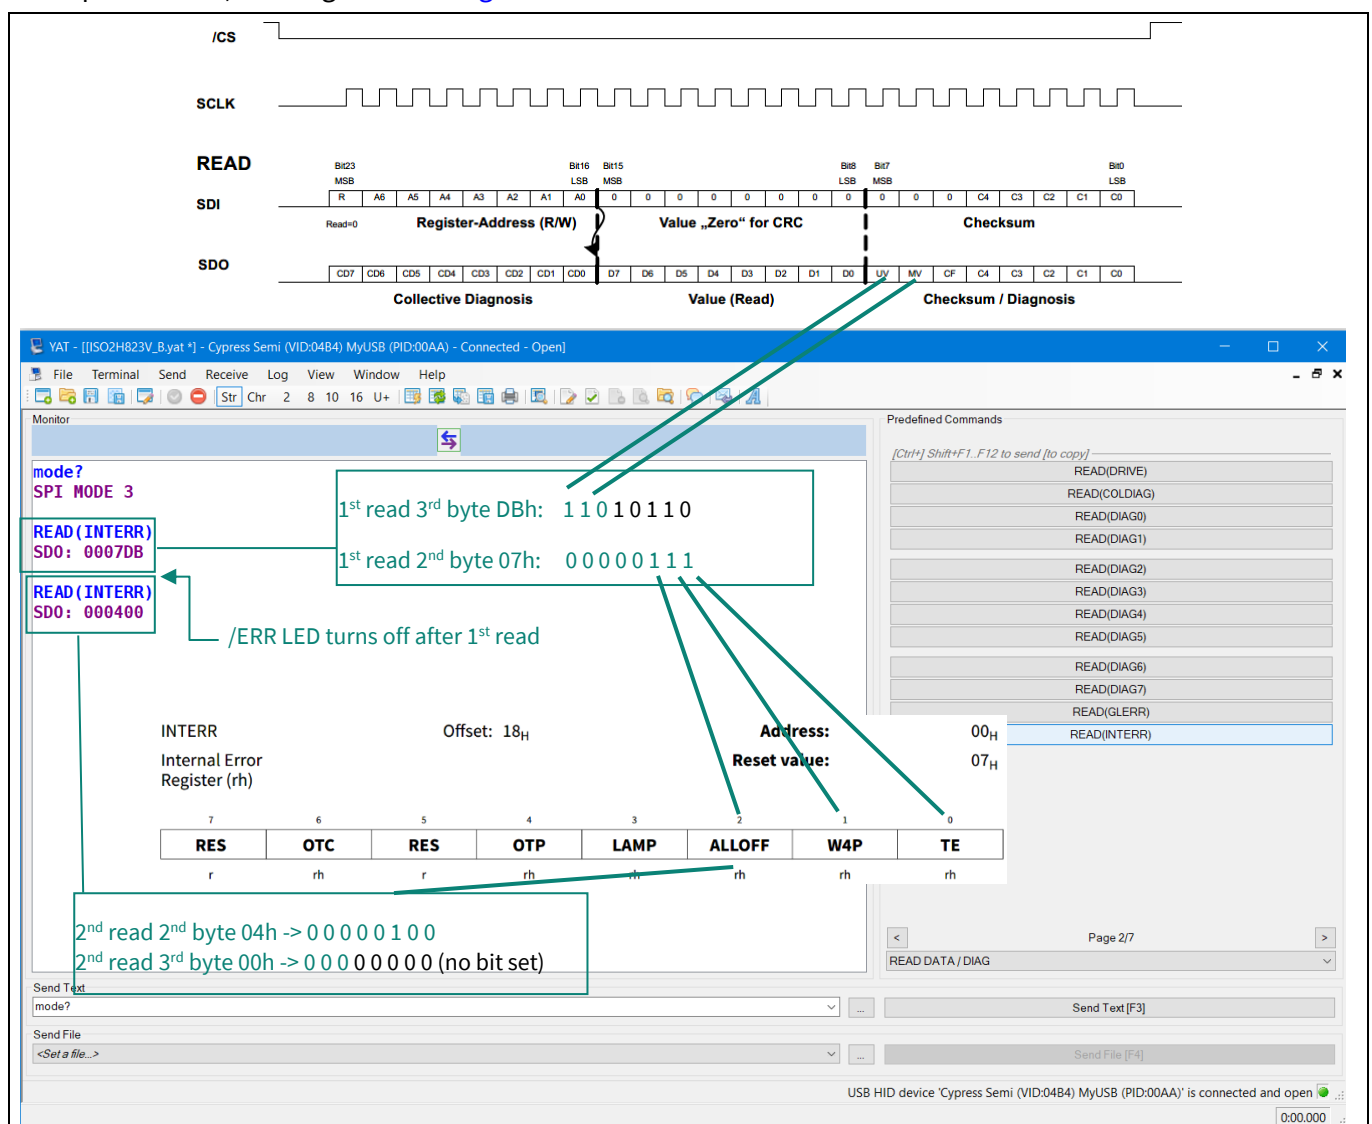

Figure 8 READ(INTERR) and response of the IC after startup
- After the first read execution to the INTERR register, the /ERR led will switch off because the diagnostic bits have been reset by the read access. The answer of the first read command 0007DB shown in Figure 8 contains the diagnostic bits after startup.
- The 3rd byte contains next to the CRC information also the bits UV and MV from the GLERR register. This is the reason why for SPI Mode 3, the register GLERR has not to be read explicitly after startup but reading INTERR implicitly also resets MV and UV. If another read to INTERR is issued, you can see that the UV and MV bit of the diagnosis are cleared and inside the register INTERR only the bit ALLOFF remains set. The bit ALLOFF is set because after startup all outputs are OFF by default. The presence of the bit ALLOFF has no impact on the /ERR flag. See also Figure 8 for more details.